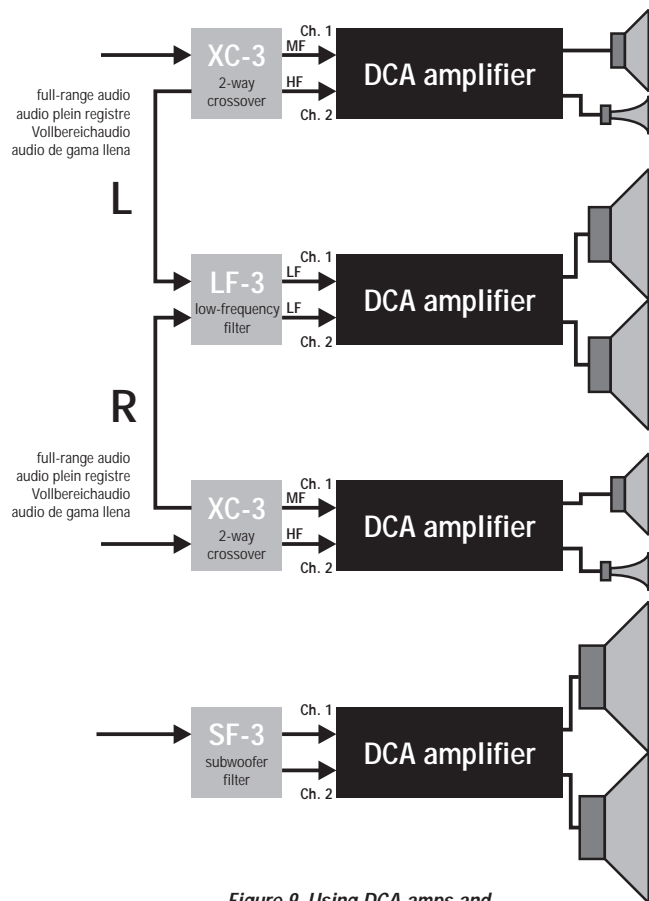
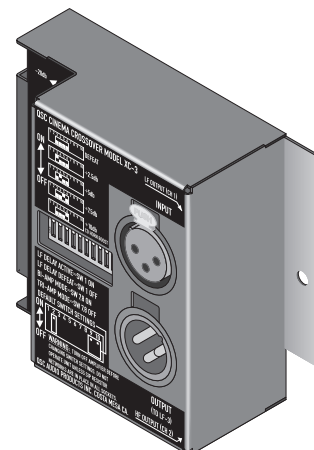

Figure 9. Using DCA amps and crossover accessories to make an active 3-way plus subwoofer system
Figure 10. An XC-3 accessory for the DCA Series amplifiers.
- DCA amps accommodate rear panel plug-in accessories (XC-3 Two-Way Crossover, LF-3 Low Frequency Filter, and SF-3 Subwoofer Filter) that provide all necessary crossover functions for subwoofer and 2- or 3-way active systems without needing additional rack space or AC outlets. The accessories feature optional functions such as built-in screen loss compensation, time alignment delay, and level compensation. Figure 9 shows two channels plus the subwoofer of an active 3-way screen system, constructed from DCA amplifiers and their accessories. Figure 10 shows an XC-3 accessory; the others are similar.